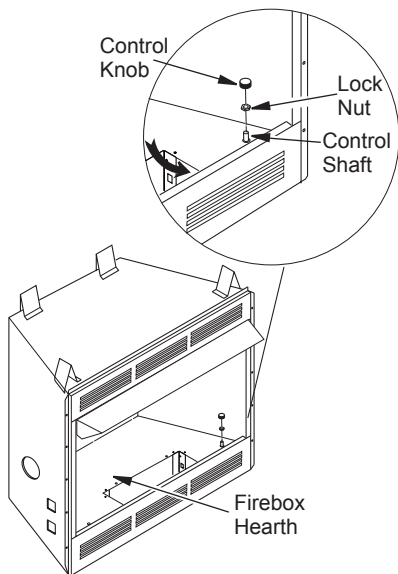

Figure 15 - Attaching Speed Control (Model May Vary From Illustration)
3. Using pliers, remove lock nut from speed control by turning counter clockwise. Mount speed control box by placing plastic control shaft through hole on left or right side of the firebox hearth by sliding control box down through large hole in firebox bottom and up through hole (see Figure 15). Secure speed control to firebox hearth with previously removed lock nut with pliers by pushing and turning lock nut until it is tight against firebox hearth of fireplace (see Figure 15).